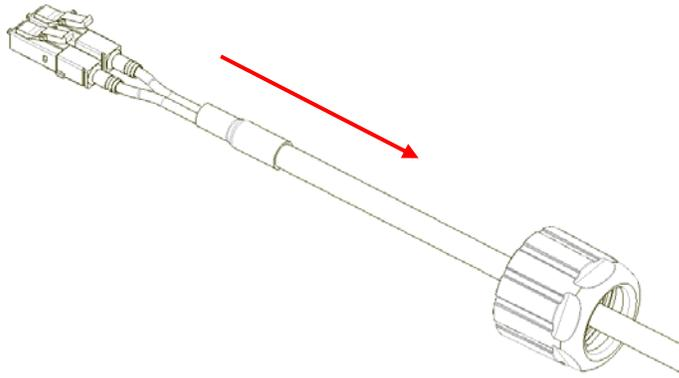

Figure 4
2. Insert the gland nut through the front end of LC Duplex assembly (Fig 4).